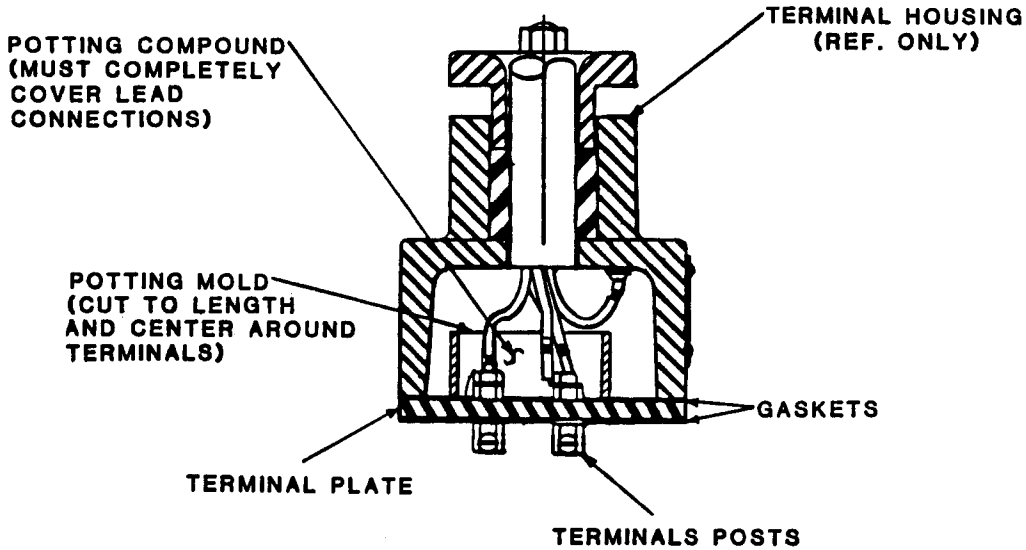

Figure 3. Potting Power Cable Leads In Terminal Housing
When shipped from the factory, the cable leads and terminals were encapsulated in heat-shrink tubing (43) and bonded to the terminal plate (45) with hot-melt adhesive to provide a water-tight seal. These materials are included in an optional repair kit listed in the parts list; however, since a glue gun with the required temperature range is not generally available in the field, it is recommended that a repotting kit available from Gorman-Rupp (see optional equipment in parts list) or a commercially available kit (Products Research Corp., part no. PR-1201-Q Class 1 potting compound, or equivalent) be used to reseat the connections. See Figure 3, and the following instructions.
Trim the potting mold so it is just long enough to cover the terminal post studs (see Figure 3). Slide the potting mold up over the three standard leads of the power cable (37).